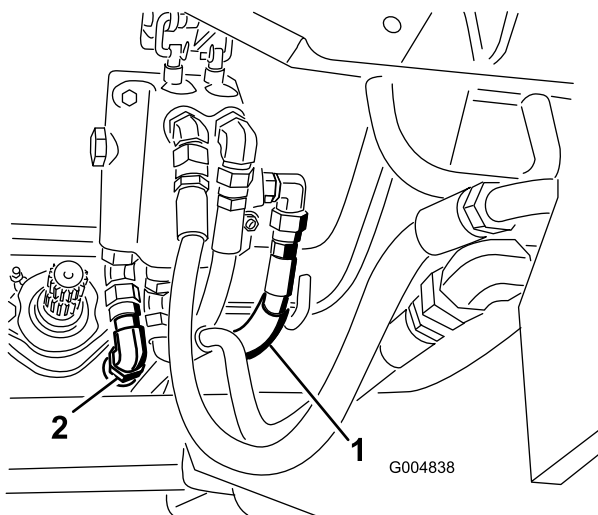

Figure 50
11. Connect the hydraulic pressure and tank hoses to the valve (Figure 50). Retain the hose plugs for the summer change over.